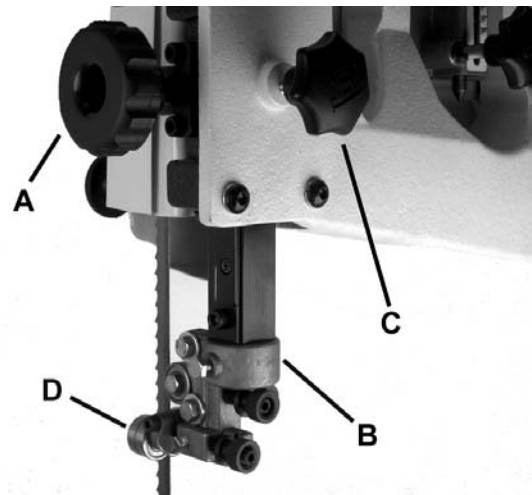
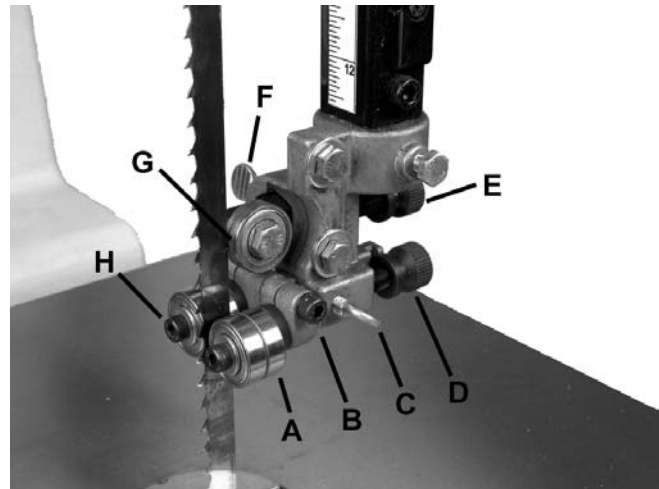

Figure 10
Figure 11
2. Loosen lock knob (C, Fig. 10) and raise or lower upper blade guide assembly (B, Fig. 10) by turning knob (A, Fig. 10) to just above the material being cut.
3. Tighten lock knob. Make sure blade guide bearings (D, Fig. 10) are still aligned next to the blade. If adjustment is necessary, review “Adjusting Upper Blade Guides and Thrust Bearings” section of manual.
3. Loosen thumb screw (F, Fig. 11) and turn knurled knob (E, Fig. 11) to move the thrust bearing (G, Fig. 10) in or out until the bearing is 1/64" behind the blade.
4. Tighten thumb screw (F, Fig. 11).
5. Loosen thumb screw (C, Fig. 11) and turn knurled knob (D, Fig. 11) to move the guide block bracket in or out until the front edge of the guide bearings are just behind the "gullets" of the saw teeth.
6. Tighten thumb screw (C, Fig. 11).
7. Loosen locking bolt (B, Fig. 11) and rotate guide bearings (A Fig 11) using cam (H, Fig. 11) with provided 4mm hex wrench as close to the blade as possible without pinching it.
8. Tighten locking bolt (B, Fig. 11).